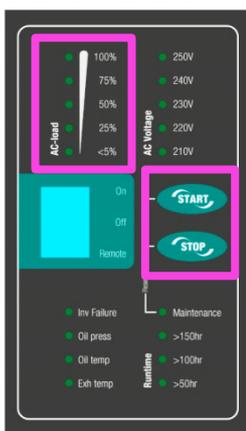

Figure 8: WP-PMG local panel
- 1 Push the START button on the WP-PMG local panel (Figure 8) and hold for two seconds to initiate the full automatic starting procedure. As a result, the electric system is activated.
- 2 Press the PMG STOP button (Figure 8) and hold for 2 seconds.